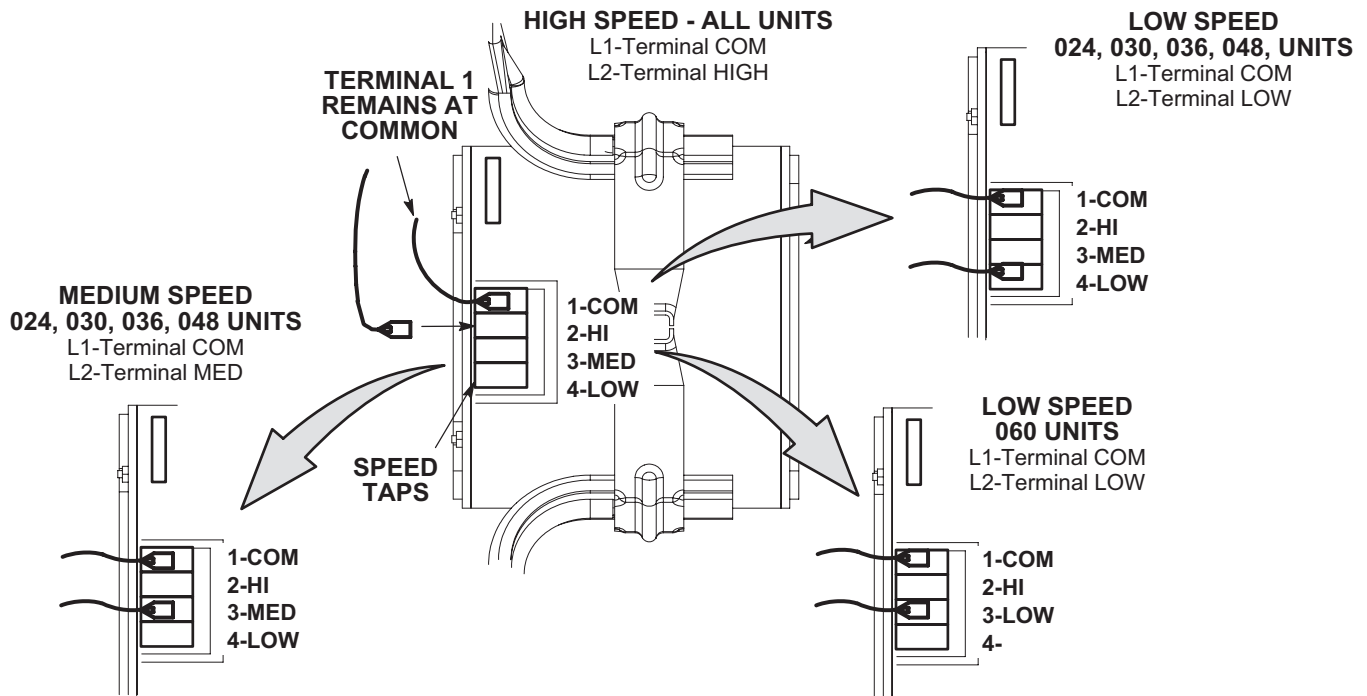

FIGURE 7
- 4 - Use direct drive blower tables, the measured static pressure and the factory-set blower speed to determine CFM. If CFM is lower or higher than the design specified CFM, move the leads as shown in FIGURE 7 for 208/230 volt units and FIGURE 8 for 460/575 volt units.